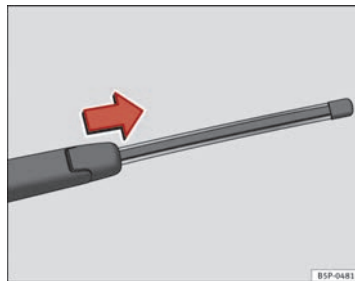

Fig. 139 Removing the rear window wiper blade
- Lift the wiper arm away from the glass → fig. 139.
- Slide the blade adapter in the direction of the arrow and remove the blade → fig. 139.